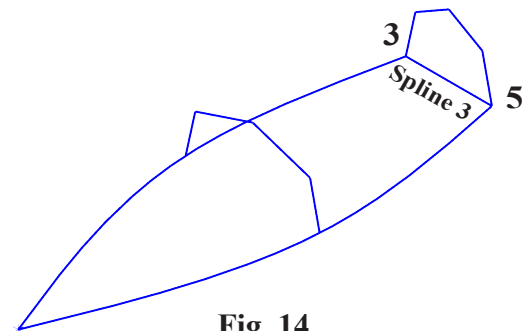

Fig. 14
Step 4. Also, spline across at rear rib **3** and **5**, **Fig. 14**.